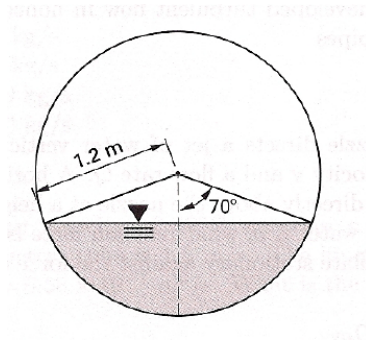

Figure 2. Circular channel flowing partially full..
7. (5 points) A pipe with a diameter of 2.4 meters is depicted in Figure 2. The pipe is flowing partially full.